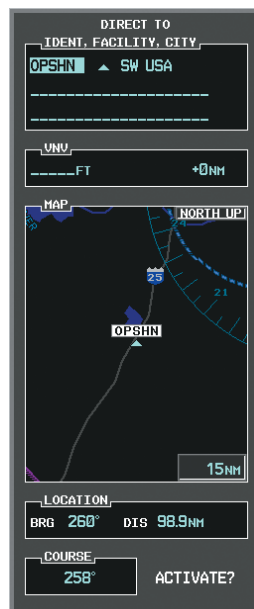

Figure 5-116 Direct To OPSHN
- Press the **Direct-to** (**D→**) Key. The Direct-to Window is now displayed as shown in Figure 5-116.